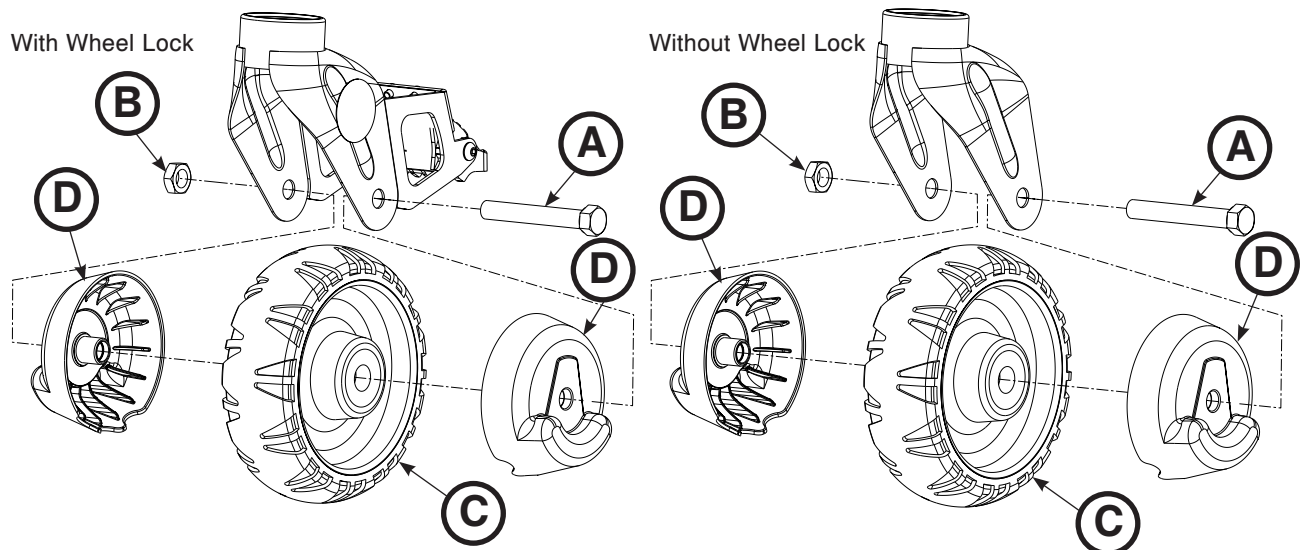

Figure 31: Cot Wheels with Wheel Covers
4. Align two wheel covers (6390-001-206) (D) around the wheel, so that the wheel covers match on both sides (Figure 31).
5. Using a 5/8" socket with a 3/8" drive ratchet and a 11/16" combination wrench, install the hex head cap screw (A) and toplock locknut (B) (0016-060-000) to secure the wheel (C) with the wheel covers (D) to the caster horn (Figure 31).